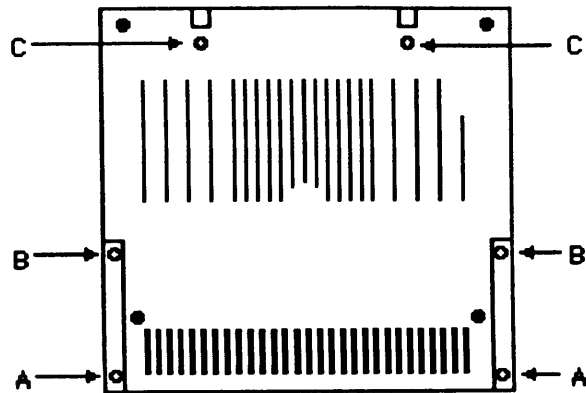

Figure 5: Apple IIc Case Bottom (Showing screws).
2. Turn the computer upside down and unscrew the two screws (marked 'A' in Figure 5) at the keyboard end corners.